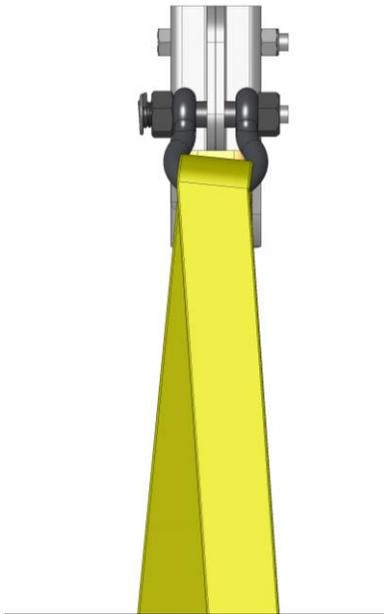
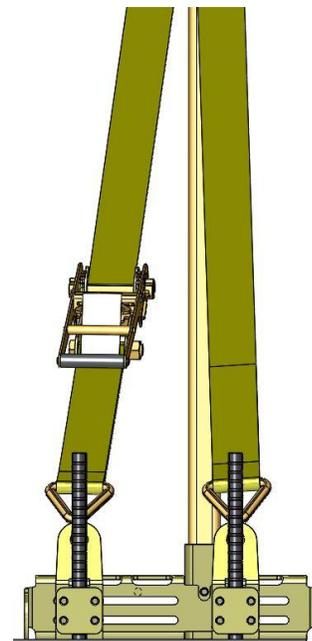
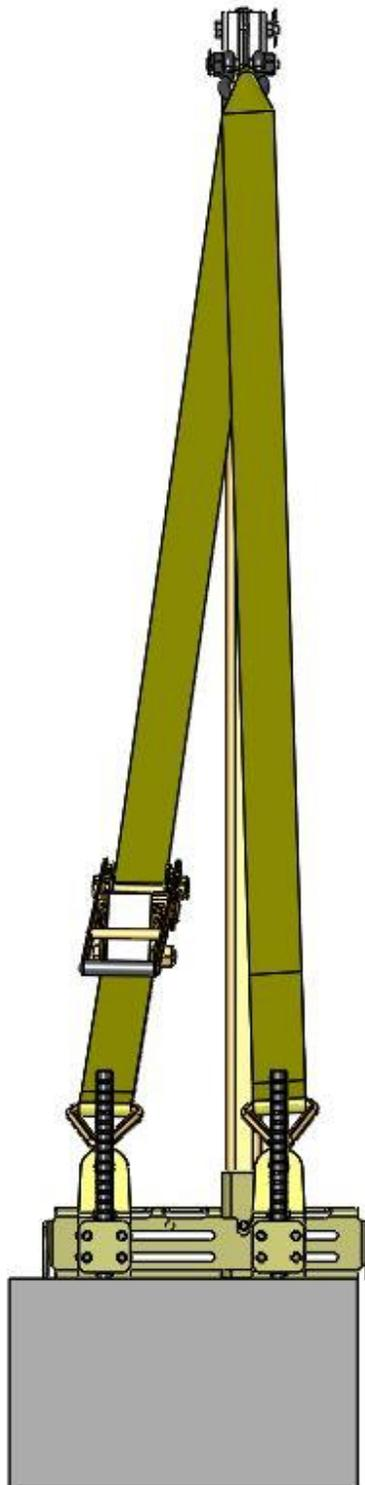

Fig. 10 Stanchion top with Bow Shackle and Tie-Back Strap
Fig. 11 Tie-Back Brackets with Ratchet and Ratchet Straps Attached (6262-1 Shown)
Fig. 12 Completed Alternate End Stanchion with Tie-back Strap Installed (6262-1 Shown)
10. Pass the end of the ratchet strap through the 5/8-in. bow shackle attached to the stanchion in Step 7, then bring it downward towards the Ratchet Assembly (see Fig. 10). Insert the strap into the Ratchet mandrel and begin tightening the strap using the ratchet handle (see Fig. 11). Continue tightening only until the stanchion is pulled vertical or leaning very slightly towards the Tie-back brackets, it should not be so tight as to bend or bow the stanchion. Verify that the ratchet strap makes at least one full revolution on the ratchet mandrel. If it does not, the strap must be fully loosened, some webbing pulled from the mandrel to give more slack into the webbing and then retightened. Continue this adjustment process until the webbing makes at least one full revolution on the ratchet mandrel so that the Tie-back strap can reach maximum strength. Any surplus ratchet webbing should be bundled up and secured to prevent it from becoming a trip hazard. See Fig. 12 for a diagram of the finished Tie-back webbing arrangement.